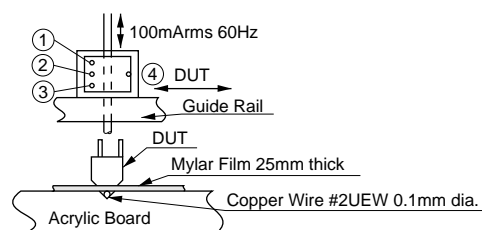

Fig. 2 Test Fixture for Output Voltage Measurement
2. DUT is set in the test fixture as shown in Fig. 2.